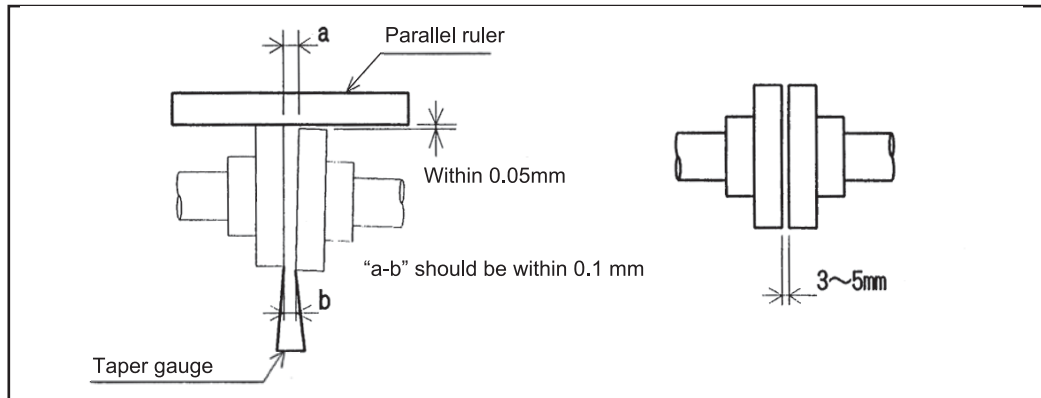

Figure 11 - Alignment method of direct type shaft coupling
- (1) Put a parallel ruler at four places on the circumference of the shaft coupling and check the gap between levels of the circumferences.
- (2) Measure the clearance between the mating surfaces of the shaft coupling using a taper gauge or a feeler gauge. (See Figure 11.)